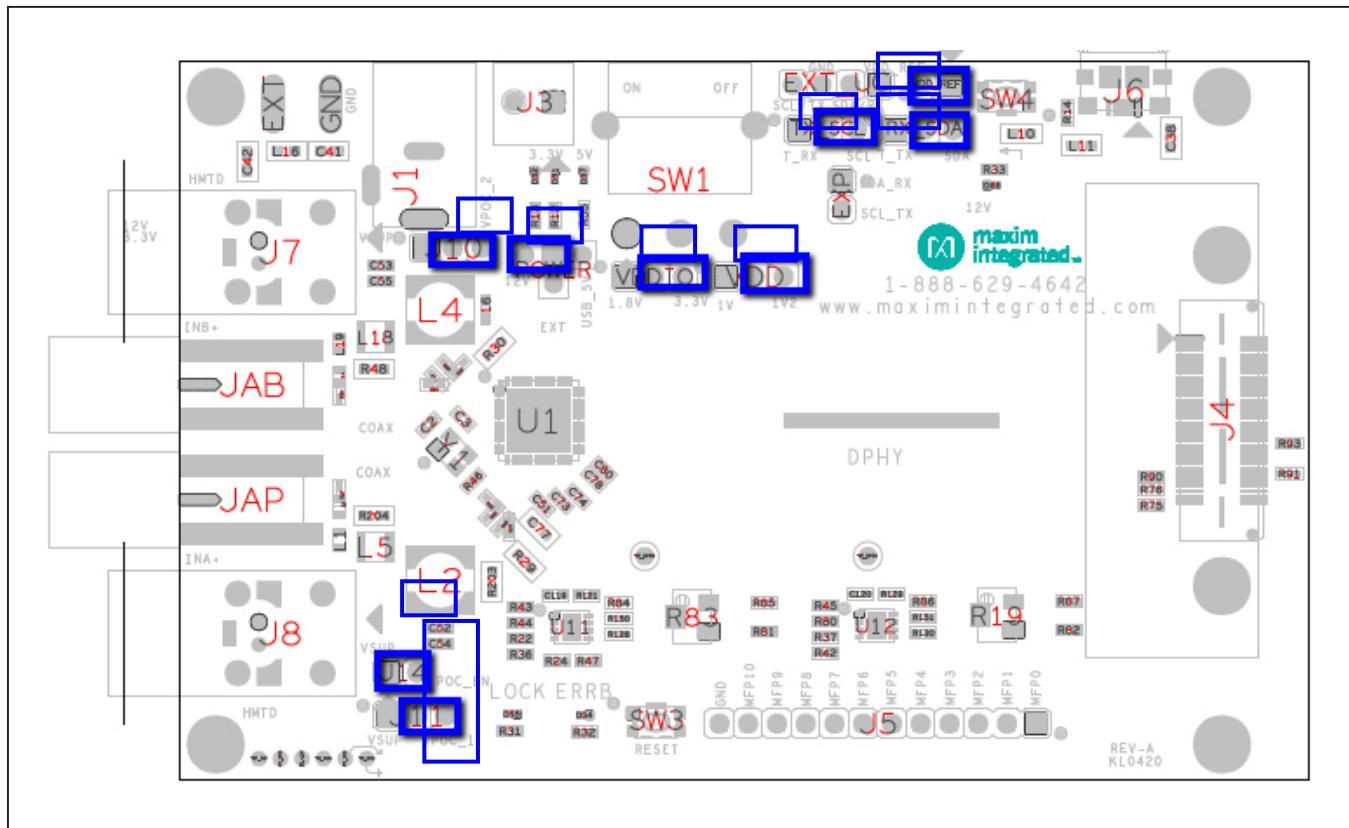

Figure 2: MAX96716 Deserializer EV Kit Default Jumper Settings
- 3) Assure that all jumper positions on the PCB are properly set to meet the requirements of the user's application. Figure 2 and Table 2 show the possible jumper positions for various configurations. The default jumper settings put the Device Under Test (DUT) into I₂C mode, select 1.8V as the VDDIO voltage, select 1V as the VDD voltage, and cause the board to be powered by 12V DC barrel jack.